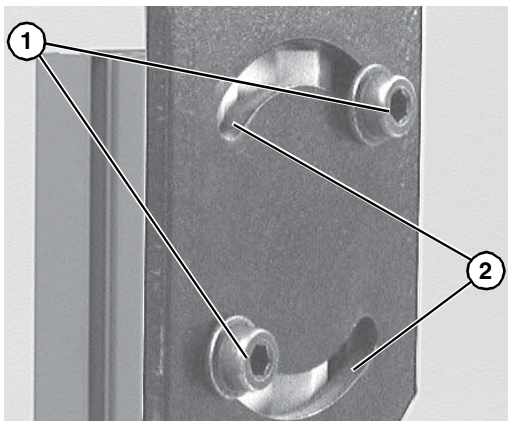

Figure 4
| <p>To rotate stand top plate, screws (Figure 4, item 1) may need to be re-located to other t-slots (Figure 4, item 2).</p> |
1. Loosen flange socket screws (Figure 4, item 1) on both sides of stand.
| <p>Failure to secure screws (Figure 4, item 1) may cause conveyor sections to drop down, causing severe injury.</p> <p>TIGHTEN SCREWS (Figure 4, item 1) AFTER ADJUSTMENT.</p> |
3. Secure flange socket screws (Figure 4, item 1) to 24 ft-lb (18 Nm).